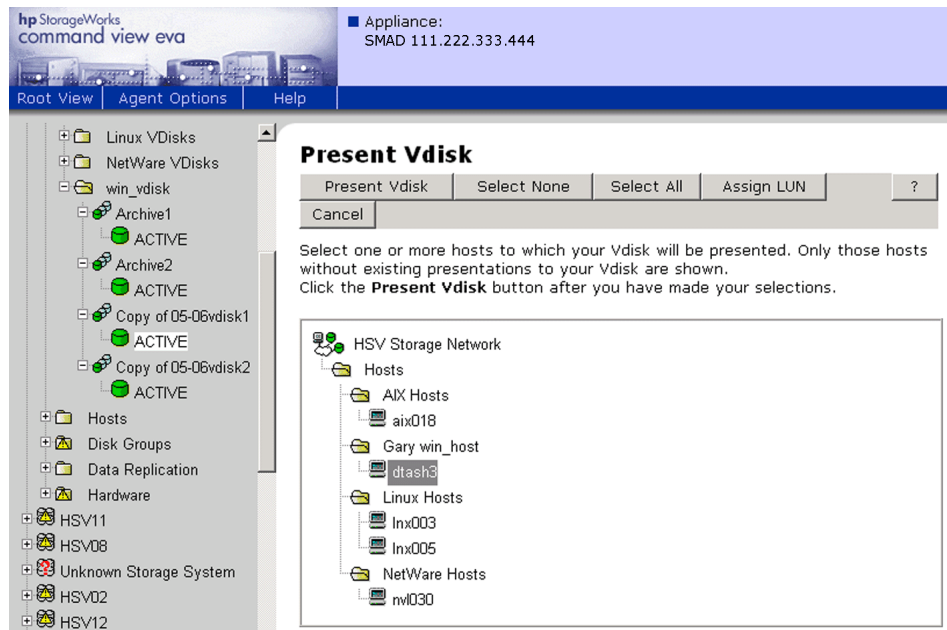

Figure 77: Present Vdisk page
- c. Click the **Present** tab. The Present Vdisk page is displayed (Figure 77).